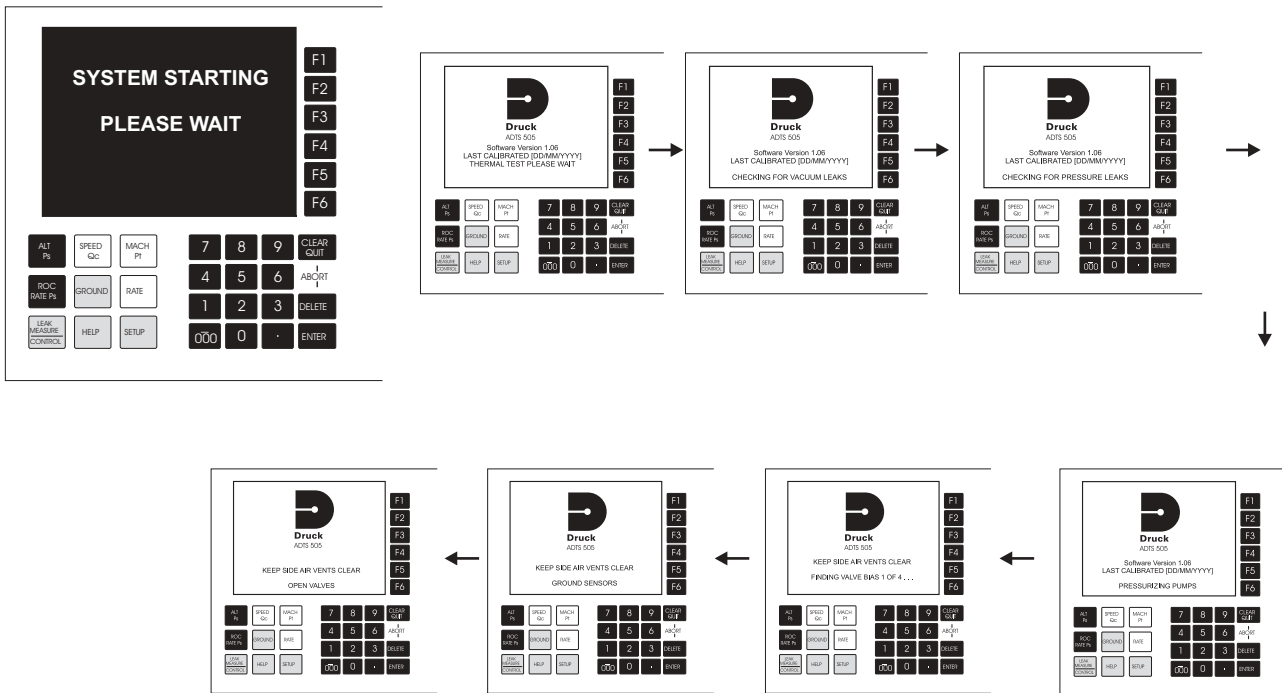

Figure 2-1 Start-up Sequence (AD505-01)
**NOTE:** 3 Figure 2-1 shows the start-up sequence for part number AD505-01. The start-up sequence displays for part number AD505-1-2952M0 show different screens with the same start-up sequence.
- (3) Completion